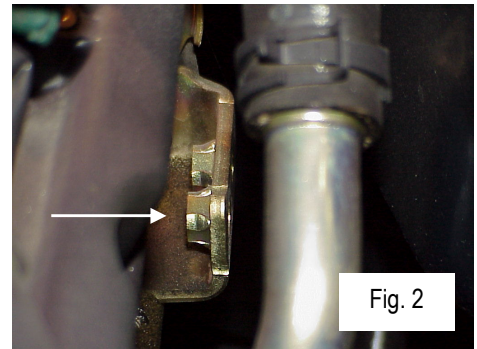

Fig. 2
4. Looking further back on left side of the engine you will see a gold colored brace bolted to the back of the engine (Fig. 2). This is where the large terminal will be attached. Using the M8x16mm FHCS install the large terminal onto the forward hole of the bracket. This is a tight squeeze, have patience! Make sure the grounding cable is clear of the exhaust manifold.